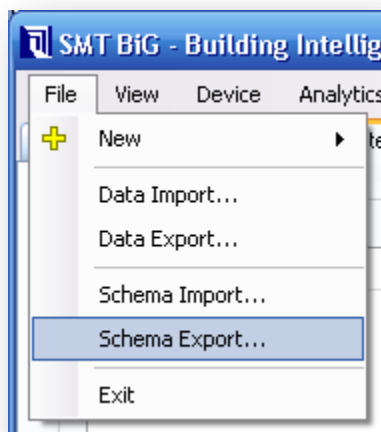

Figure 10-1 - Export the schema to a file using the File menu
1. In the main window's menu, choose *File* → *Schema Export...* (see FIGURE 10-1)